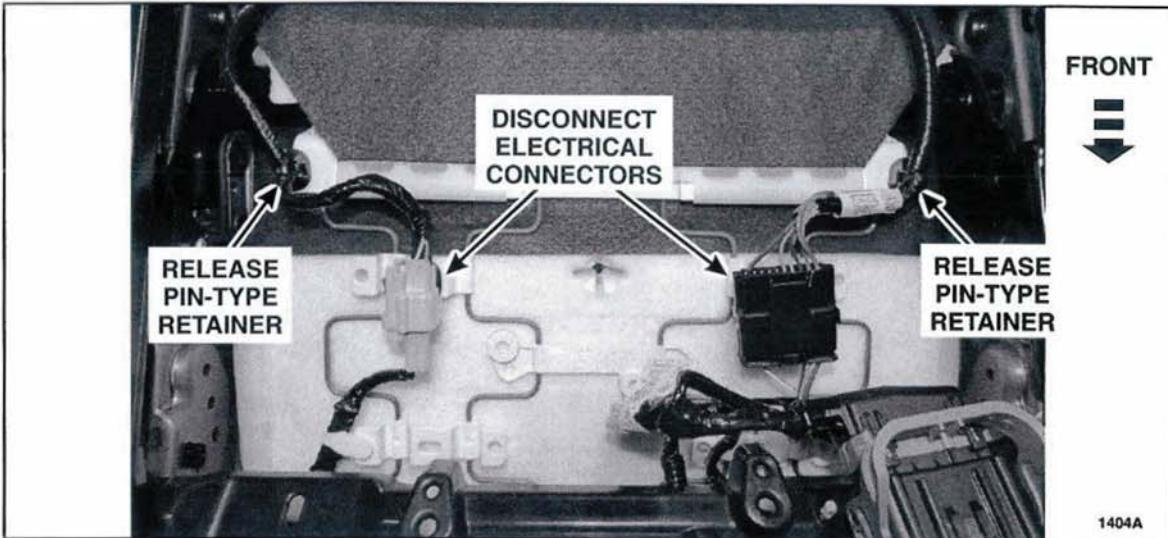

FIGURE 1
3. Disconnect both electrical connectors from under the seat assembly and release the harness pin-type retainers from the connectors and the wire harnesses. See Figure 1.